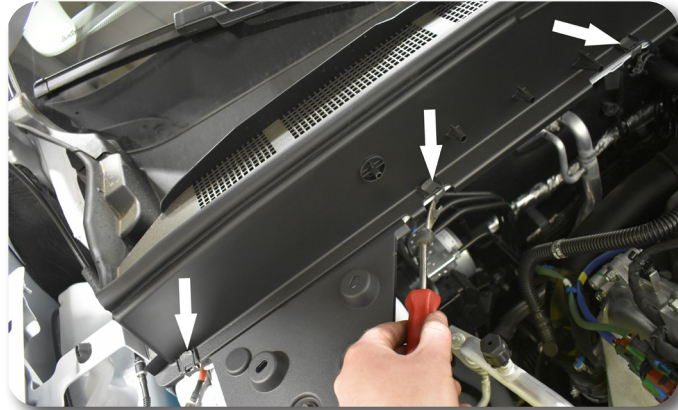

Figure 1
5. Remove the clips (6 total) that secure the cowl trim. **Figure 1**